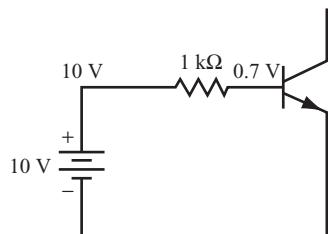

FIGURE 3.10
- 8** For the circuit shown in Figure 3.10, because the 10 volts supplied by the battery is much greater than the 0.7-volt diode drop, you can consider the base-emitter diode to be a perfect diode and thus assume the voltage drop is 0 volts.